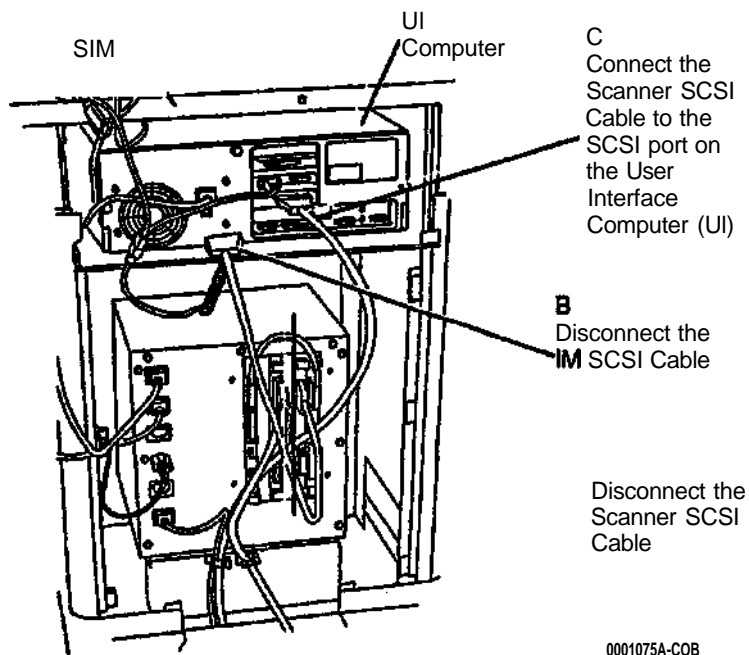

Figure 6-2. Connecting the Scanner to the SIM
2. (Figure 6-2): Connect the Scanner SCSI Cable directly to the SCSI port on the User Interface Computer, if not already done during the installation of the Scanner.
3. (Figure 6-2): Disconnect the Scanner SCSI cable from the SCSI port on the UI.